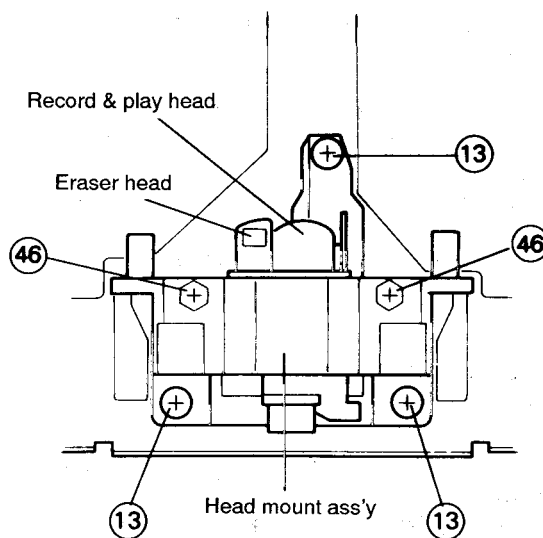

Fig. 7-25
■ Head Mount Ass'y (Refer to Fig. 7-25)